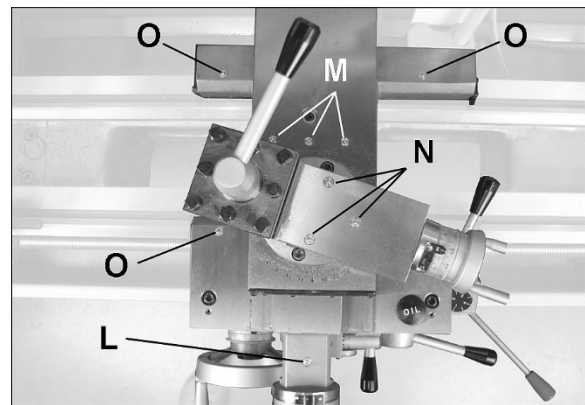

Figure 7-5
7. **Cross Slide** – Daily lubricate one ball oiler on handwheel housing (L, Figure 7-5) and three ball oilers on platform (M, Figure 7-5).
8. **Top Slide** – Daily lubricate three ball oilers (N, Figure 7-5) on platform.